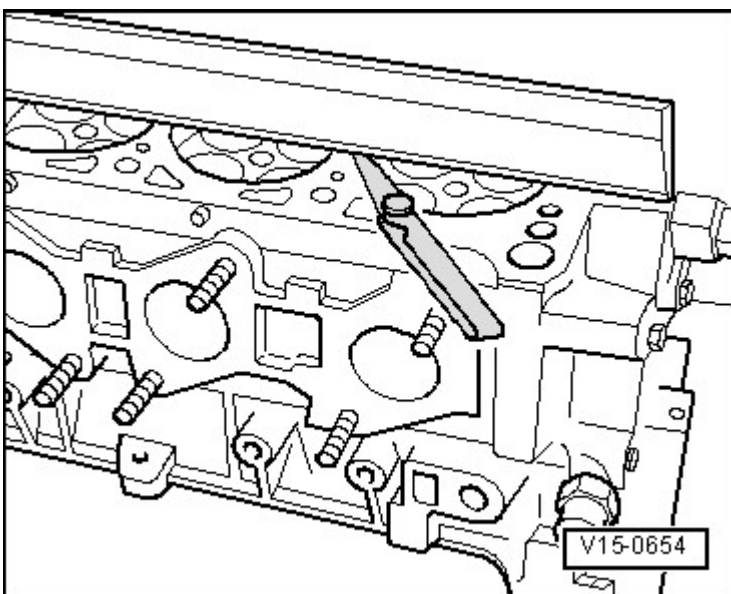

Fig. 18: Checking Cylinder Head For Distortion
- Check for distortion, refer to **Fig. 18**